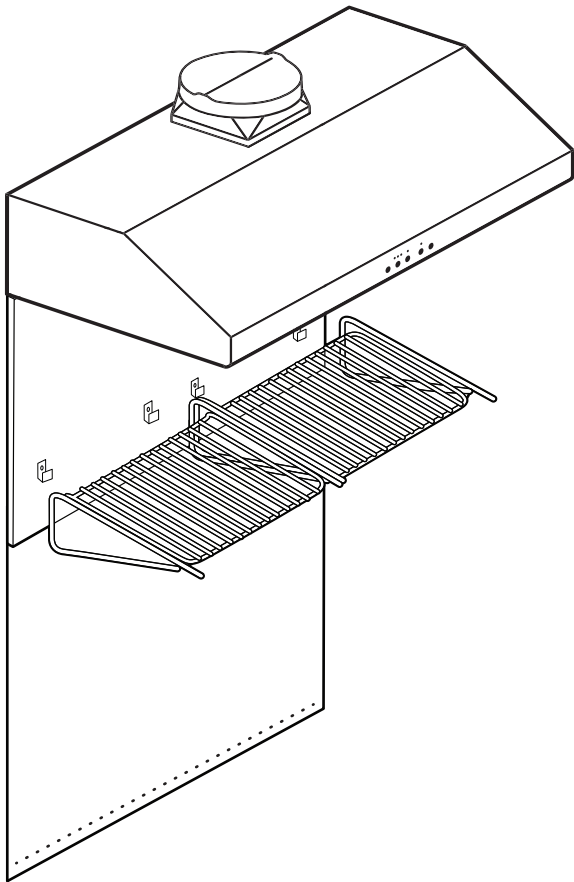

**Figure 9: Backsplash Installation**
3. Per each wall stud, use (2) 1" (25.4 mm) Phillips head screws to secure both the top and bottom of the Backsplash (see *Figure 9*). Space screws evenly across top and bottom of Backsplash.